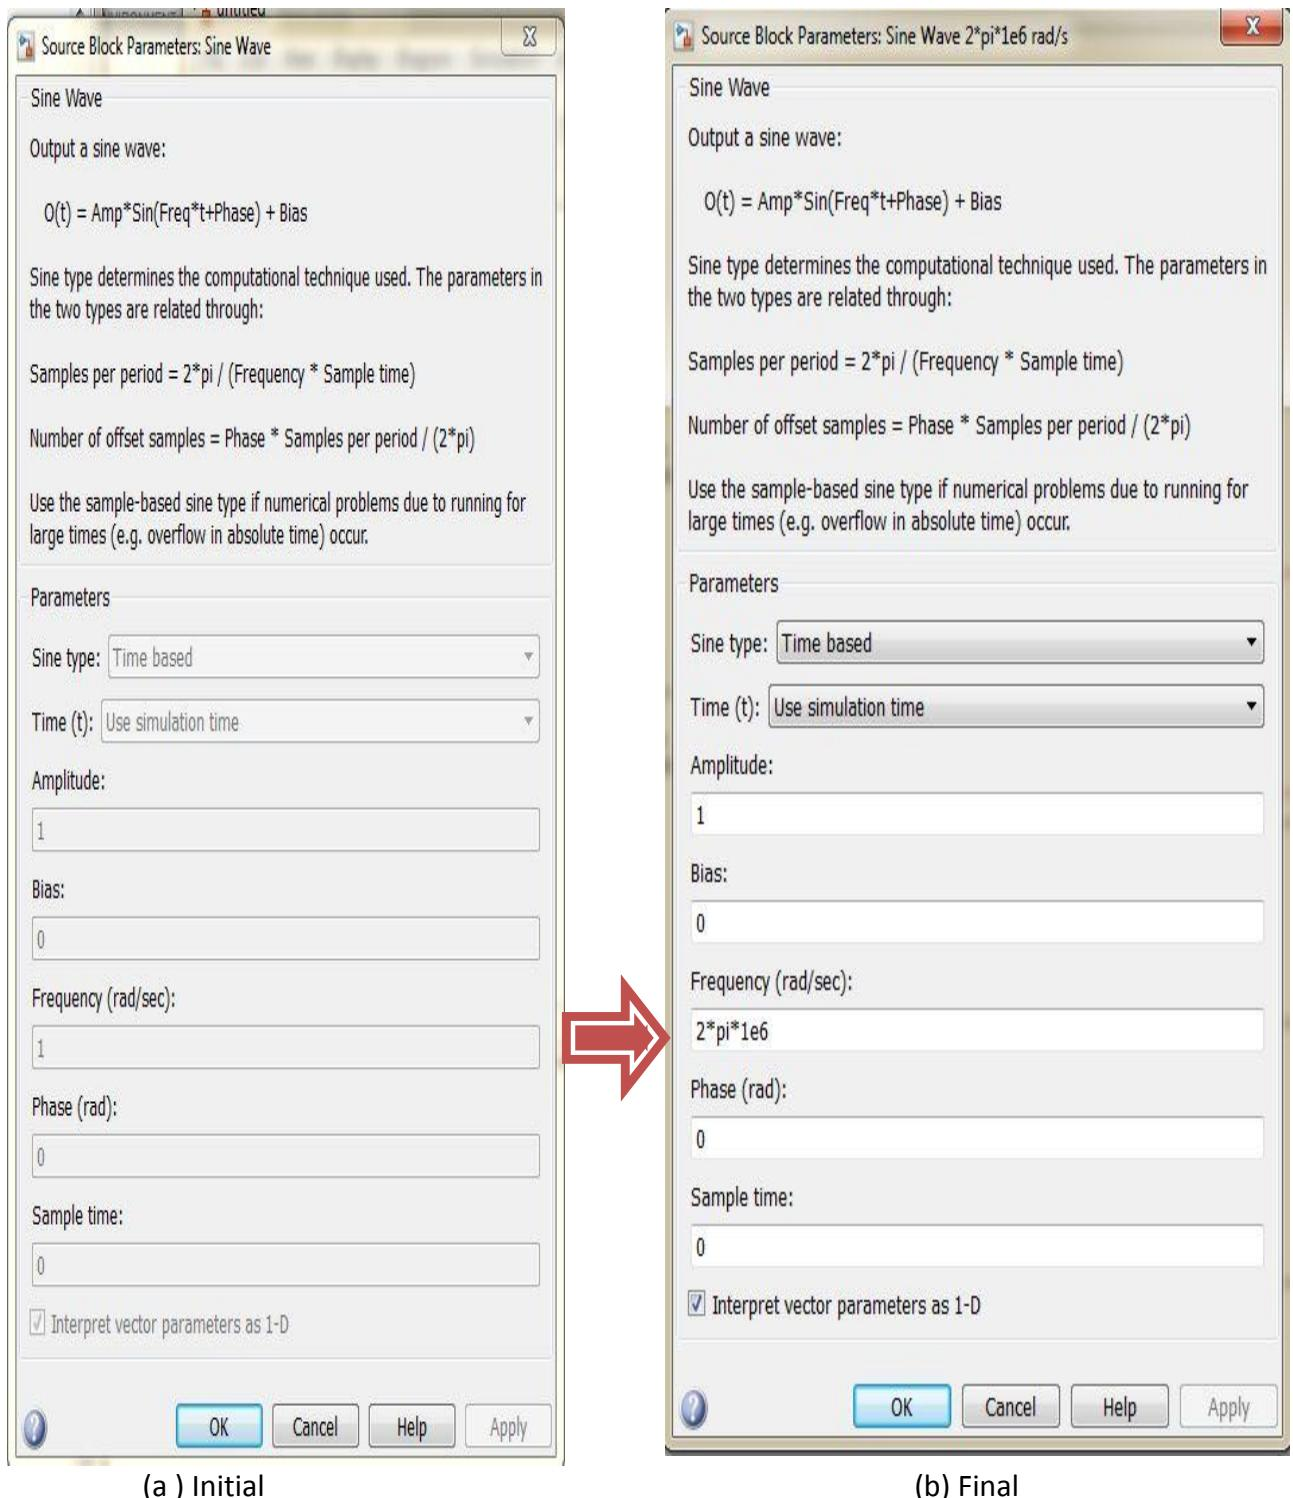

Figure 10: Sine Wave Source of frequency $2\pi \cdot 10^6$ rad/s.
2. For block **Sine Wave** $2\pi \cdot 10^6$ rad/s: We have changed **Frequency (rad/sec)** to $2\pi \cdot 10^6$ as shown in the figure 10.